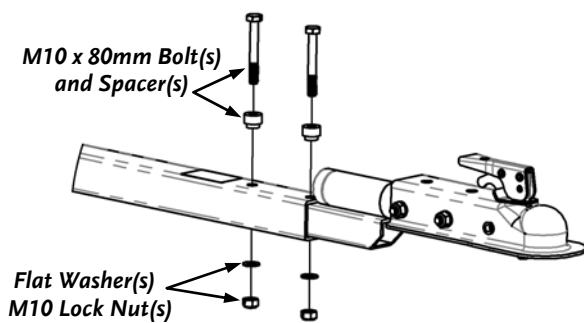

Figure 16
- 14. Install two M10 x 80mm Bolts and Spacers, with the smaller diameter Shoulder(s) down, (**Figure 16**) through the Tow Bar and Swivel Tow Hitch. Install a Flat Washer, Lock Washer, and M10 Lock Nut on each Bolt and tighten with a 16mm Socket while holding the Nut with a 17mm Wrench.